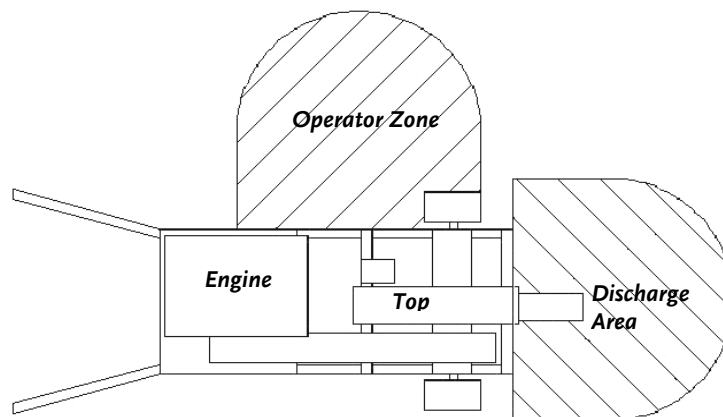

Figure 4
- When viewed from the Chipper Hopper side (Operator Zone, **Figure 4**), the Flywheel turns in a clockwise direction.
- ALWAYS operate the DR RANGER CHIPPER from the Operator Zone (**Figure 4**).
- If the cutting knife strikes a foreign object or if your machine should start making an unusual noise or vibration, immediately stop the Engine and wait five (5) minutes for all moving parts to come to a complete stop and cool. After the machine has come to a complete stop proceed as follows:
- ALWAYS stop the Engine when leaving the Operating Zone (**Figure 4**) or when moving the Chipper.